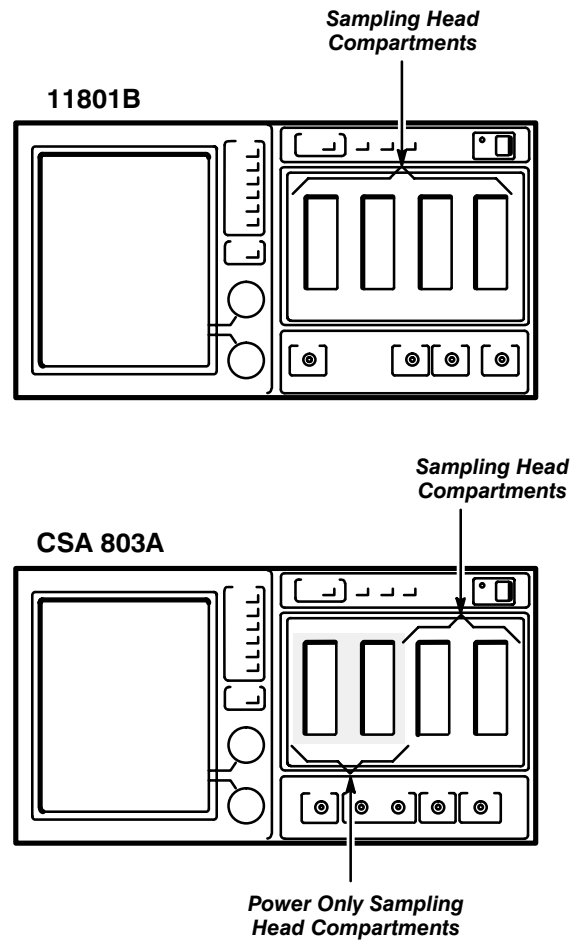

Figure 2: Sampling Head Compartments in an 11801B and a CSA 803A
- Figure 2: Sampling Head Compartments in an 11801B and a
The SD-20 Sampling Head fits into the front panel of a compatible instrument, such as the 11801 Series Digital Sampling Oscilloscopes or CSA 803 Series Communications Signal Analyzers. Figure 2 shows the front panels of an 11801B Digital Sampling Oscilloscope and a CSA 803A Communications Signal Analyzer and the locations of the sampling head compartments. Note that on the CSA 803 Series, only two compartments provide signal acquisition capability. The other two compartments only provide power, for example to power an optical-to-electrical converter.